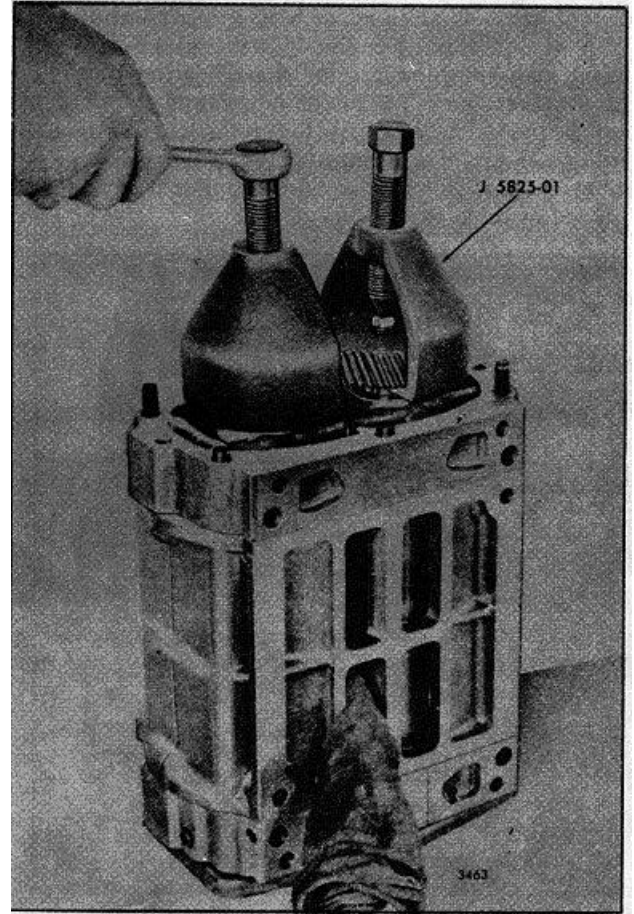

Fig. 5 · Removing Blower Rotor Gears
- a. With the pullers in place under the gears (Fig. 5), place a brass bar, approximately 1 " long and 5/8 " diameter, between the point of each puller bolt and blower rotor shaft.